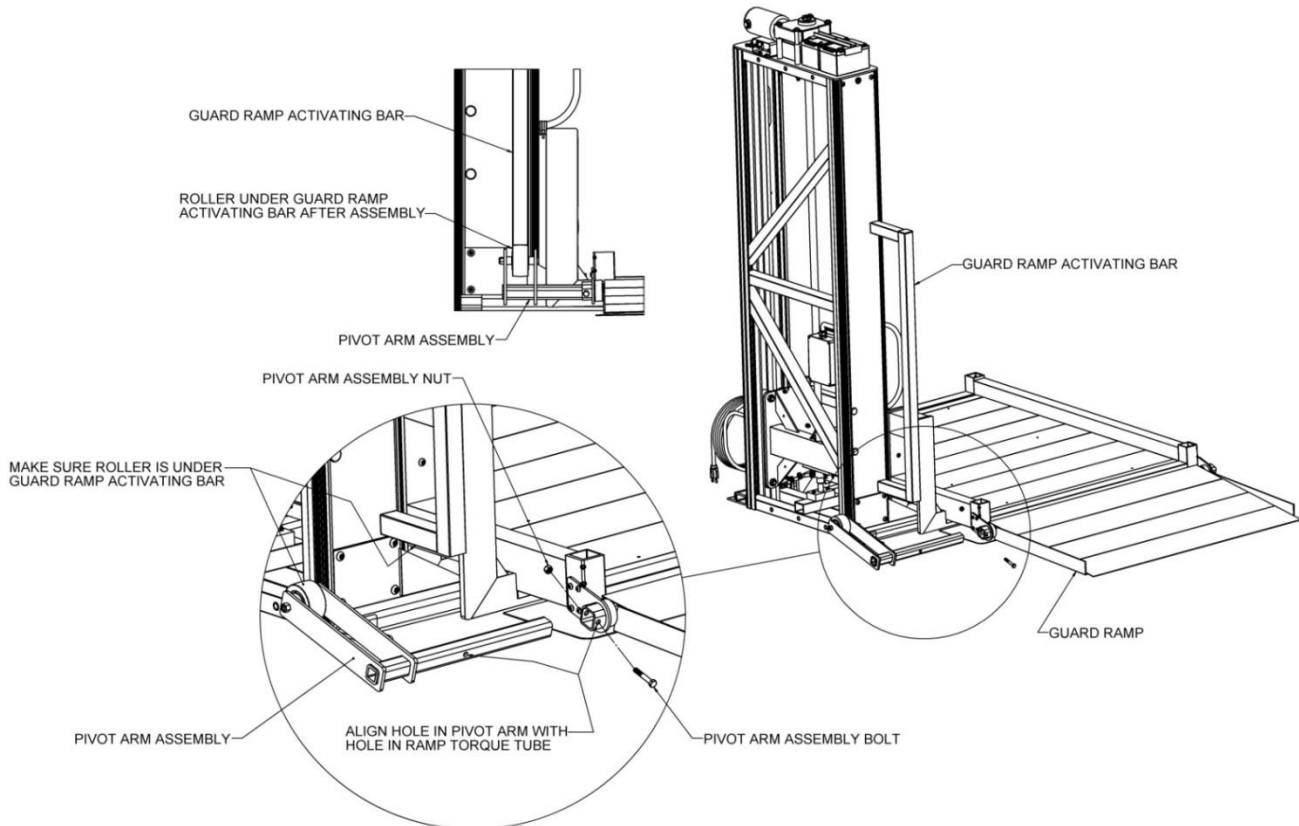

FIG. 4.6
9. Install the pivot arm assembly (included in the box with the platform) by first locating the 5/16"-18 x 2" hex bolt and locknut included in the hardware bag (FIG. 4.6).